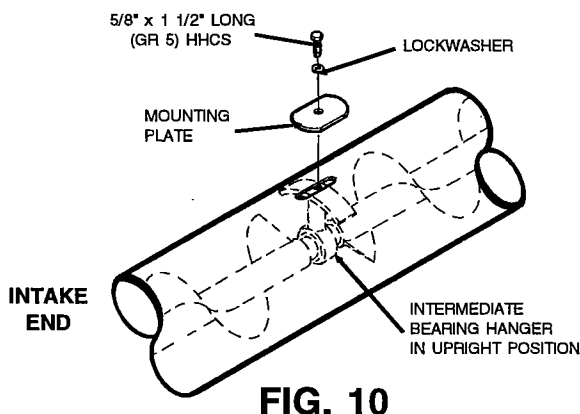

FIG. 10
- C. Attach each bearing hanger to the auger housing using a mounting plate, a 5/8" x 1 1/2" long (grade 5) hex head capscrew and lockwasher as seen in Fig. 10. Before tightening the mounting bolts, adjust the bearing hangers so they are centered between the ends of the auger flights. (See Fig. 11.) This can be done by sliding the hanger back and forth in the slot to determine the approximate center.